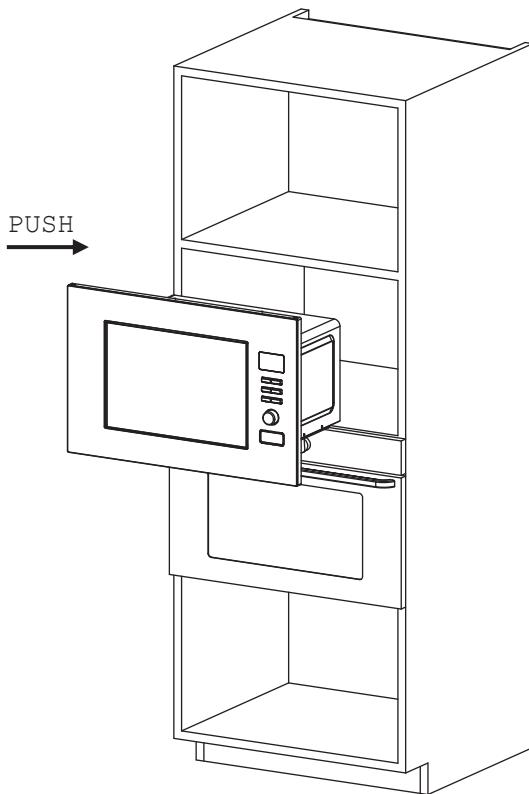

Fig. 1
② INSTALLATION:
- a) Put the microwave oven into built-in cabinet, and push it forward to the end. (Fig. 1)